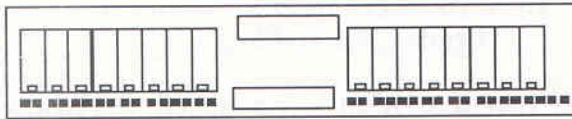

Figure 21 - Links for 2MB shown in black. Make these links with the small jumpers supplied
- (4) Taking static precautions remove the 16 41256 memory chips and place them to one side. You will not need these again.
- (5) Put the supplied seventeen jumpers over the vertical prongs marked L1 to L17 as shown in figure 21. If you have lost these jumpers, you can get a new set by sending a cheque for £2.00 to Frontier.